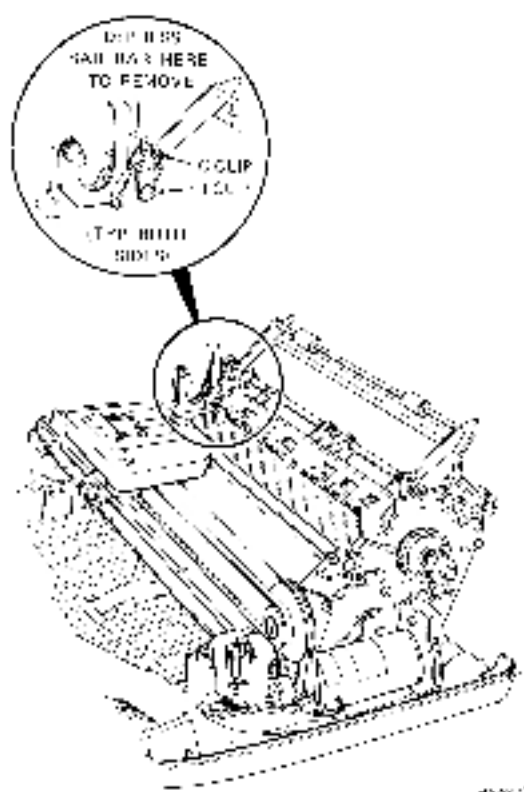

Figure 7-6 Back Bar Assembly
2. Using needlenose pliers, remove one end of the J-clips from each end of bail bar (Figure 7-6).
3. Using needlenose pliers, remove the bail bar retainer rings (C-clips) from each end of the bail bar (Figure 7-6).
4. Press both ends of the bail bar and lift straight up (Figure 7-6).